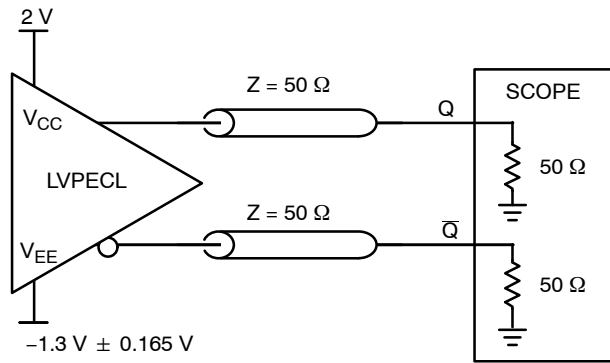

Figure 4. Output Load AC Test Circuit (Split Power Supply)
2. Outputs terminated with $50\ \Omega$ to $V_{CC} - 2.0\text{ V}$. See Figures 4 and 12.
4. Output terminated with $50\ \Omega$ to $V_{CC} - 2.0\text{ V}$. See Figures 4 and 12.